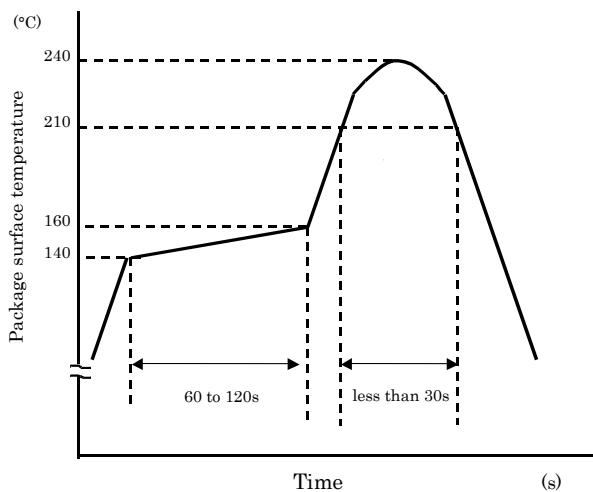
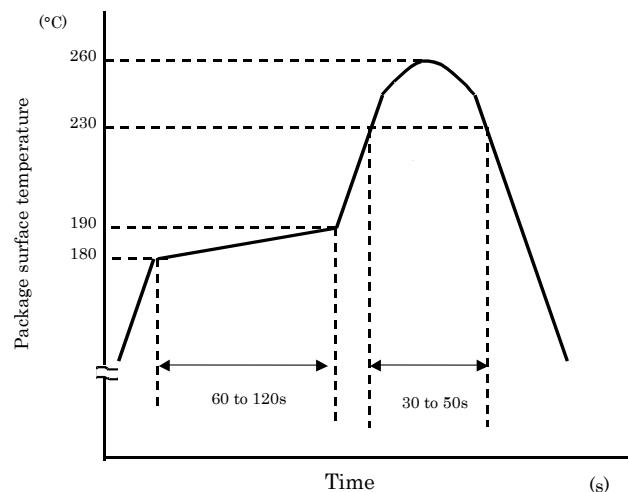

Fig2. An example of a temperature profile when Sn-Pb eutectic solder is used
Fig 3. An example of a temperature profile when lead(Pb)-free solder is used
(Fig.2) Switching Time Test Circuit
- When using soldering reflow (See Fig2 and Fig3)